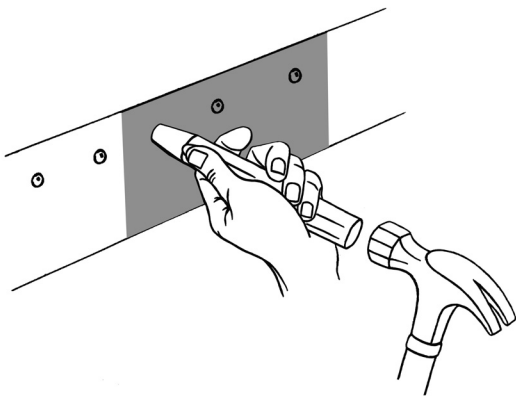

Figure 3
8. Cut marking around rivets using an Osborne cutting tool of proper size to fit over rivet. Place tool over top of rivet and marking and tap lightly using a small hammer (Figure 3). Squeegee the marking around the rivet with firm pressure. The cut film on the rivet head can be left on the rivet but will eventually come off during washing. Avoid applying marking over closely spaced rivets where possible. Apply the marking above the bottom row of closely spaced rivets on side panels.